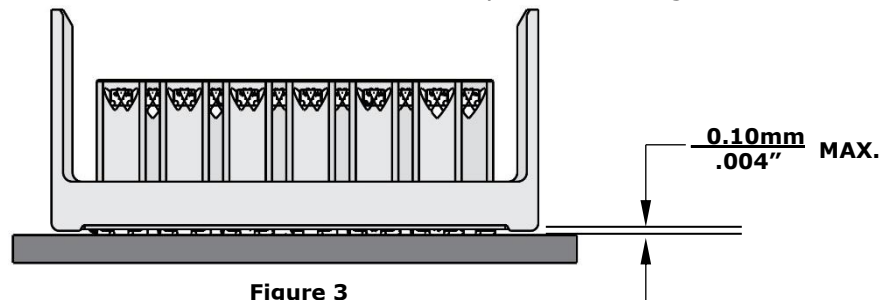

Figure 3
3. Using the insertion tool and an appropriate press, seat the header assembly until there is less than 0.10mm (.004") clearance between the bottom of the plastic housing and the surface of the PCB. See Figure 3.